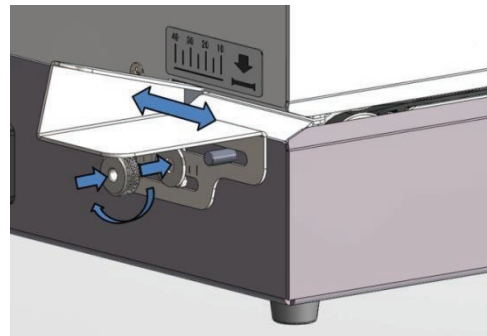

Figure 2
7. Guide plate installation: screw the nut counterclockwise to adjust, as shown in Figure 2 and clockwise to tighten.